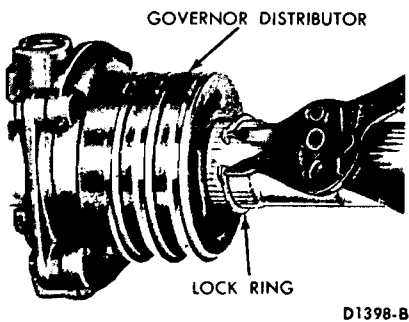

FIG. 53—Removing or Installing Governor Distributor Lock Ring
23. Remove the governor distributor lock ring from the output shaft (Fig. 53). Remove the governor distributor from the output shaft.